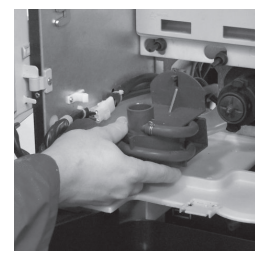

fig.23
- remove all the powder conveyors, water funnels, mixer chambers and fans, silicone hoses and plunge them into the solution (fig.23).